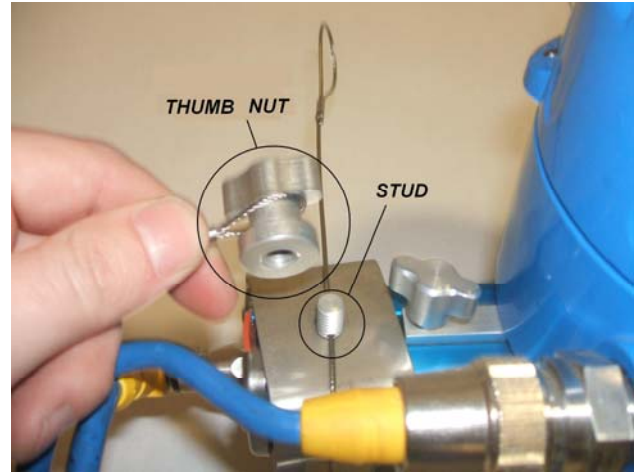

Figure 2
**Step 1:** Check to make sure brackets are properly assembled on the illuminator. The cable should be fed through the stud protruding from behind the illuminator, locking in the bracket as shown above in Figure 2. One end of the cable should be crimped into an oval for pulling leverage and the other should be crimped securely around a thumb nut.